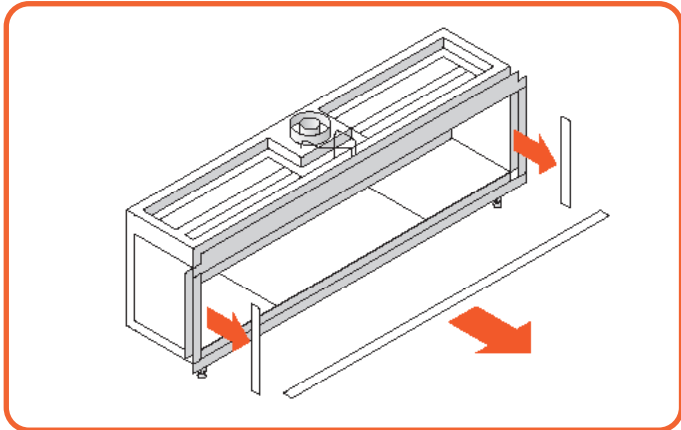
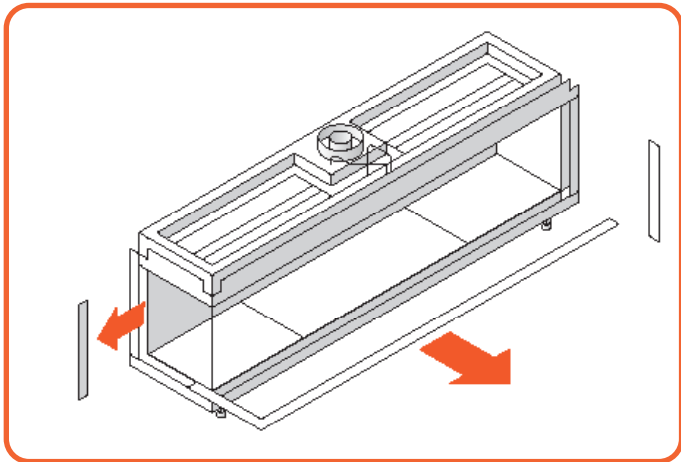
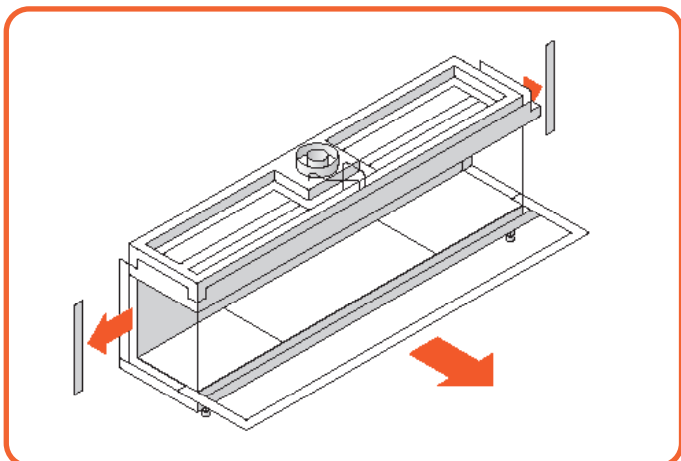

Figure 10.9 - Summum 190 F - Remove trims
Figure 10.10 - Summum 190 C - Remove trims
Figure 10.11 - Summum 190 3S - Remove trims
- Remove both the side trims and bottom trim. They are held by magnets, **Figure 10.9, Figure 10.10 & Figure 10.11.**